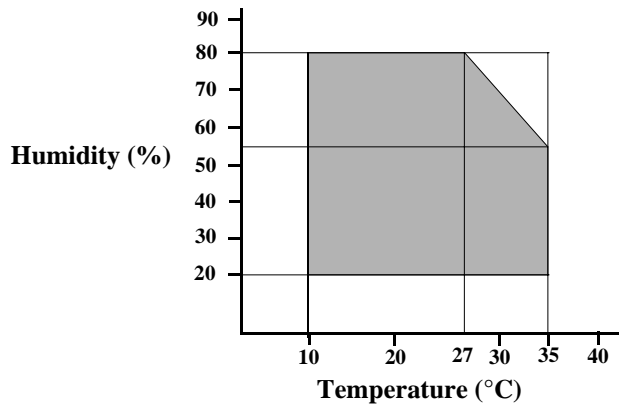

Figure 1-7. Temperature/Humidity range
- Operating : 10 to 35°C (Refer to Figure 1-7)
(without condensation / Refer to Figure 1-7)